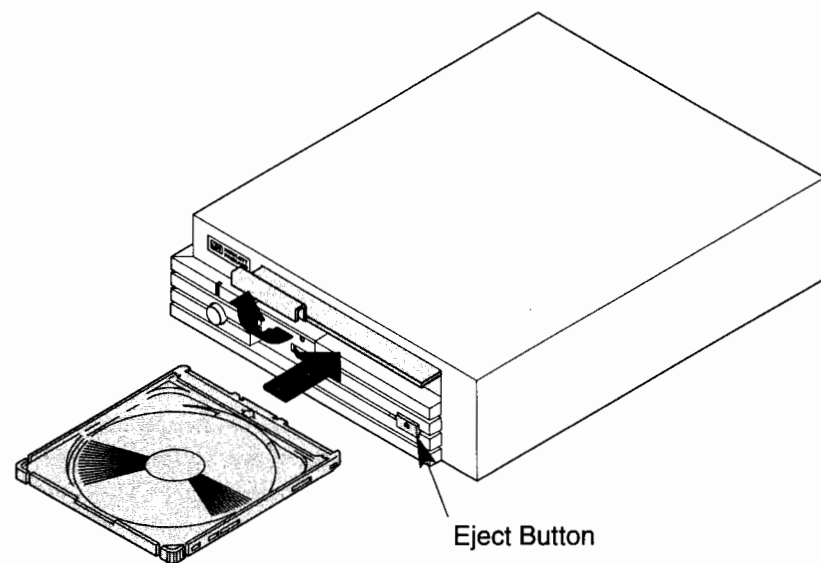

Figure 6-3. Loading and Unloading a CD-ROM Disc Caddy
1. Open the door on the front of the CD-ROM drive, as shown in Figure 6-3.
2. Hold the disc caddy with the cover facing up and the arrow on the top of the caddy pointing toward the CD-ROM drive, as shown in Figure 6-3.
1. Press the eject button on the CD-ROM drive. (See Figure 6-3.)